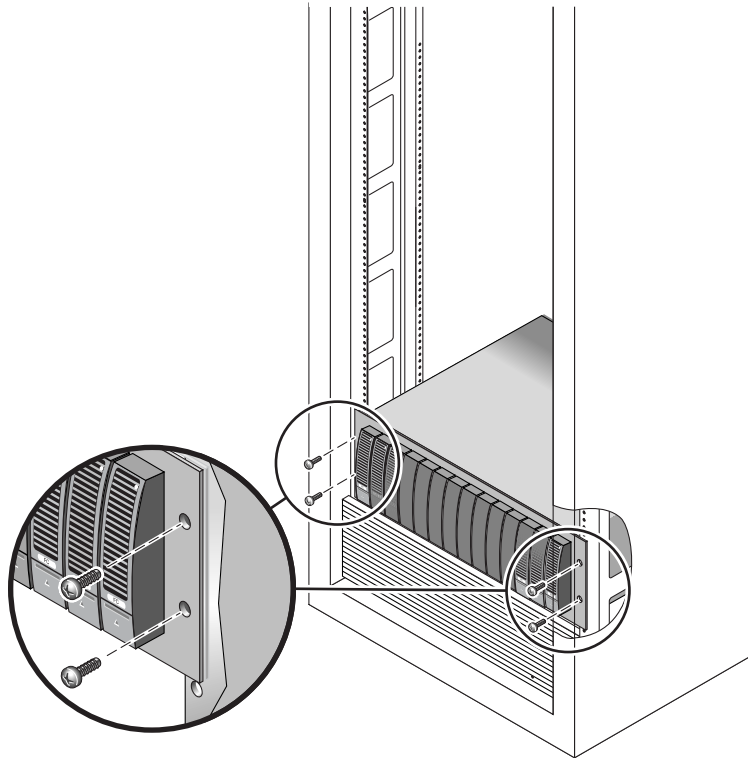

FIGURE 2-16 Securing the Enclosure to the Front of a Sun StorEdge Expansion Cabinet
- For a Sun StorEdge Expansion cabinet, use the No. 2 Phillips screwdriver to insert and tighten four 10-32 screws (two per side) to secure the enclosure to the front of the cabinet (FIGURE 2-16).